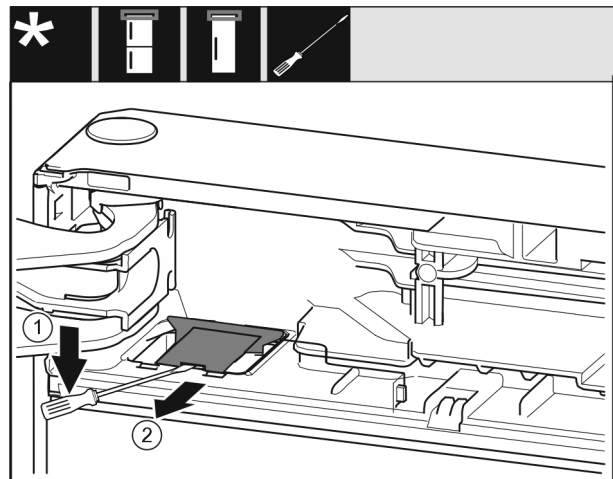

Fig. 8
▶ Unlatch the cover with a slotted screwdriver and lift it up. Fig. 8 (1)
▶ Take out the cover. Fig. 8 (2)